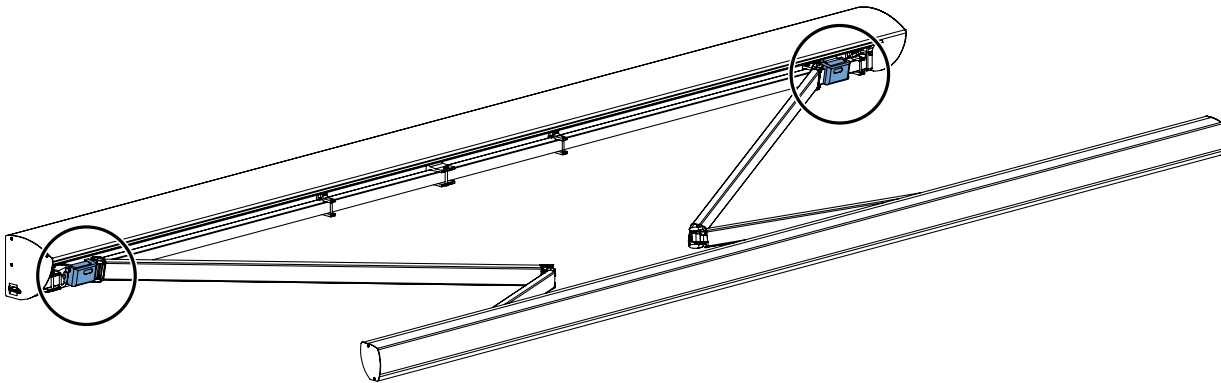

fig. 5.1 Location arm-connections
1. Unroll the awning completely. The arm-connections are located left and right at the beginning of the folding arms (on the side of the box). See figure 5.1.